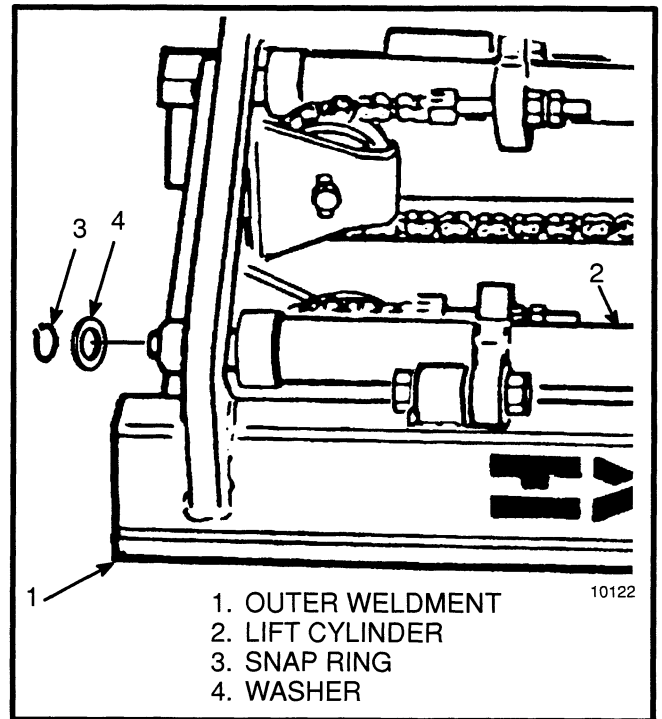

FIGURE 4. DISCONNECTING THE LIFT CYLINDERS FROM THE INNER CHANNEL
3. Remove the snap rings and washers from the top of each lift cylinder. See FIGURE 4.